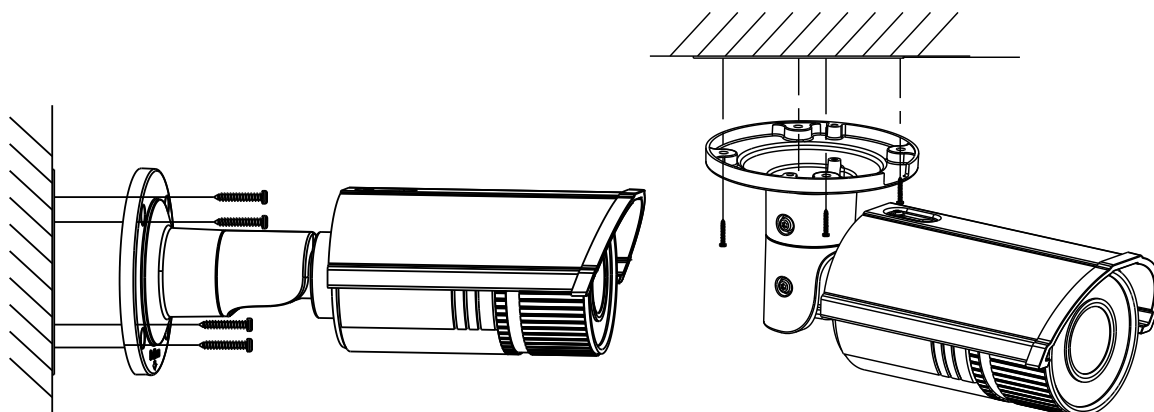

Figure 5-29 Secure the Camera
5. Secure the camera to the wall (or ceiling) with expansion screws. Refer to the Figure 5-29.